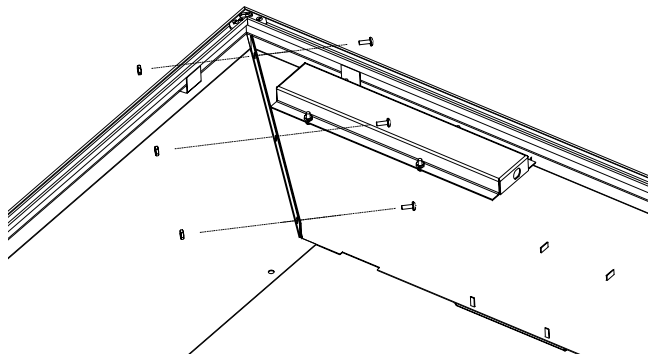

Figure 28
- 4- Assemble the sides to the top of the faceplate.(Figure 28)